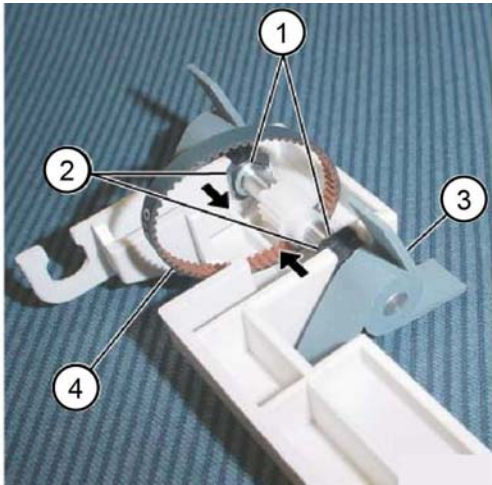

Figure 8 Rear paddle belt removal
10. Remove the paddle belt, **Figure 8**:
- a. Remove two E-clips (1).
- b. Move the two bearings (2) in the direction of the arrow.
- c. Remove the sub paddle shaft assembly (3).
- d. Remove the rear paddle belt (4).